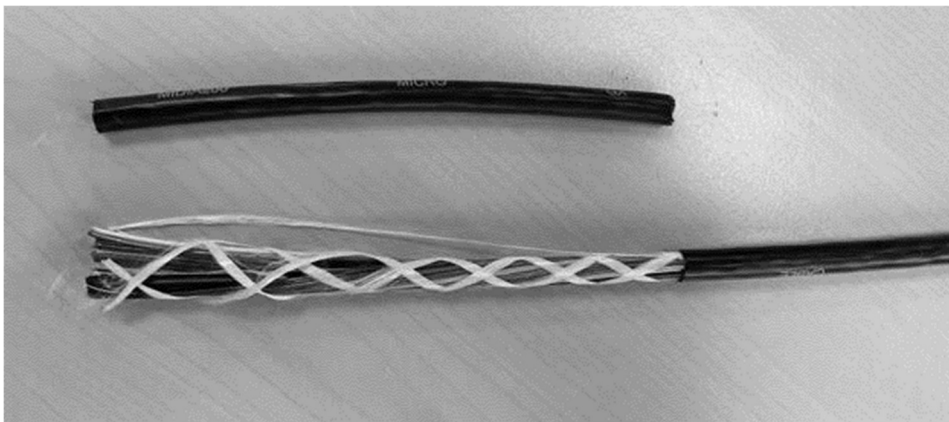

Figure 5 - Remove the 130 mm section to expose the rip cord
4.6 Remove the 130mm section to expose the rip cord (Figure 5).